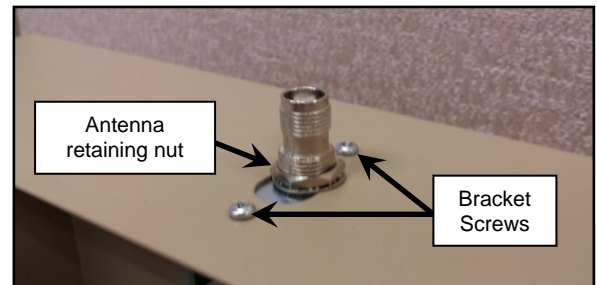

Figure 1.
3. Remove the antenna TNC connector's retaining nut and washer. Set these aside for later use. (Figure 1)